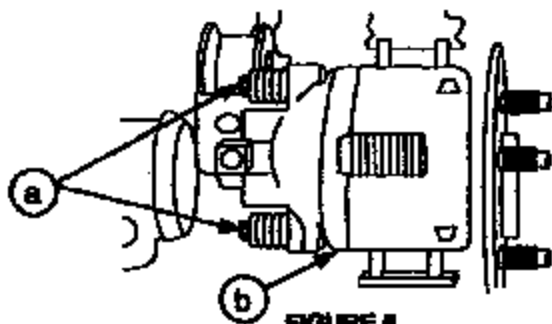

FIGURE 6
7. Remove the rear disc brake caliper (refer to Figure 6).